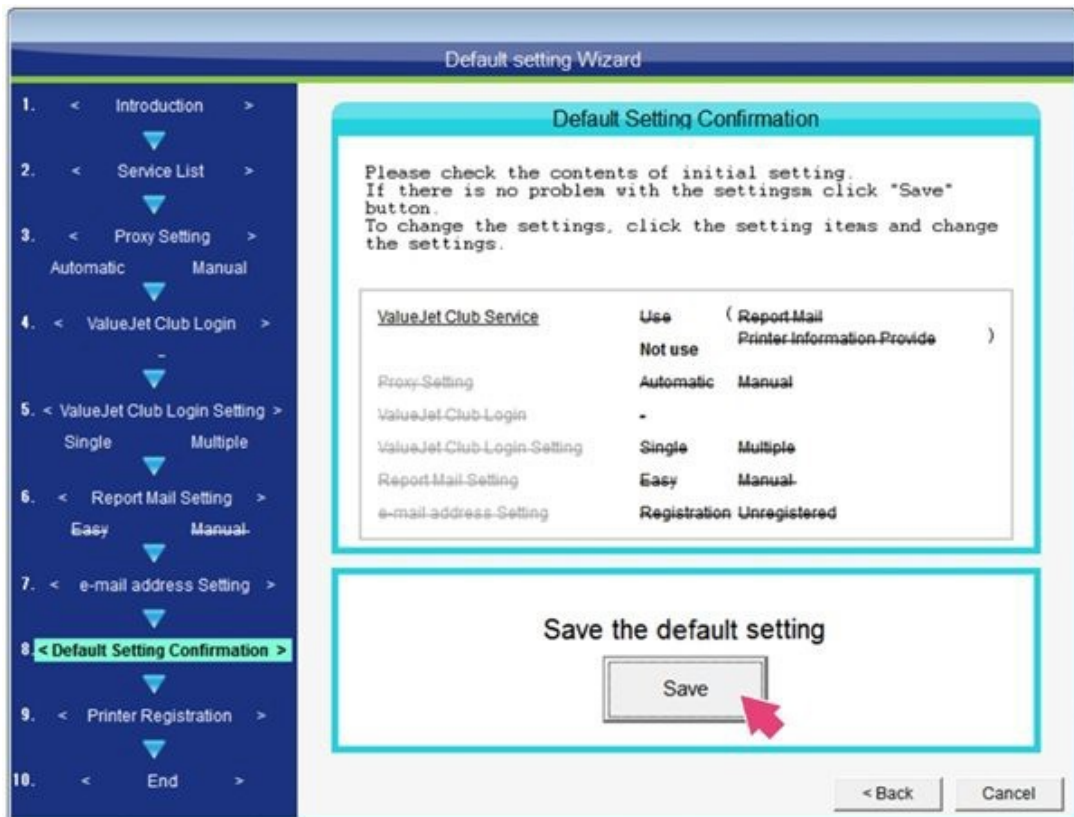

Figure 49
36. Confirm the initial settings; then select **Save** to continue. See Figure 49.